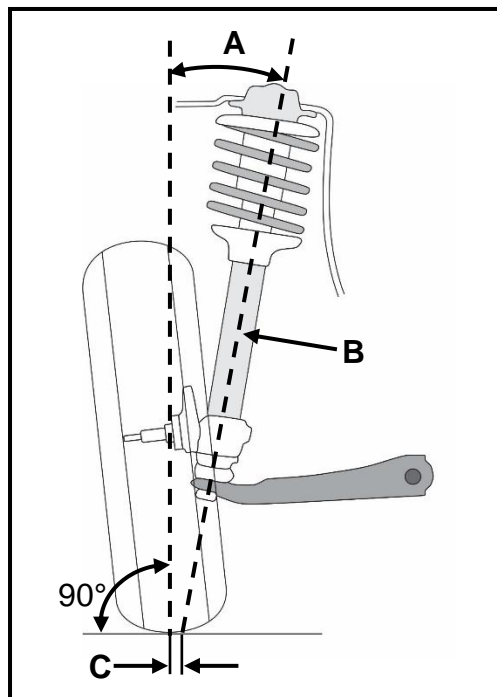

FIGURE 10.3
- 10.3 FIGURE 10.3 below shows the king pin inclination, as seen from the front. Answer the questions that follow.